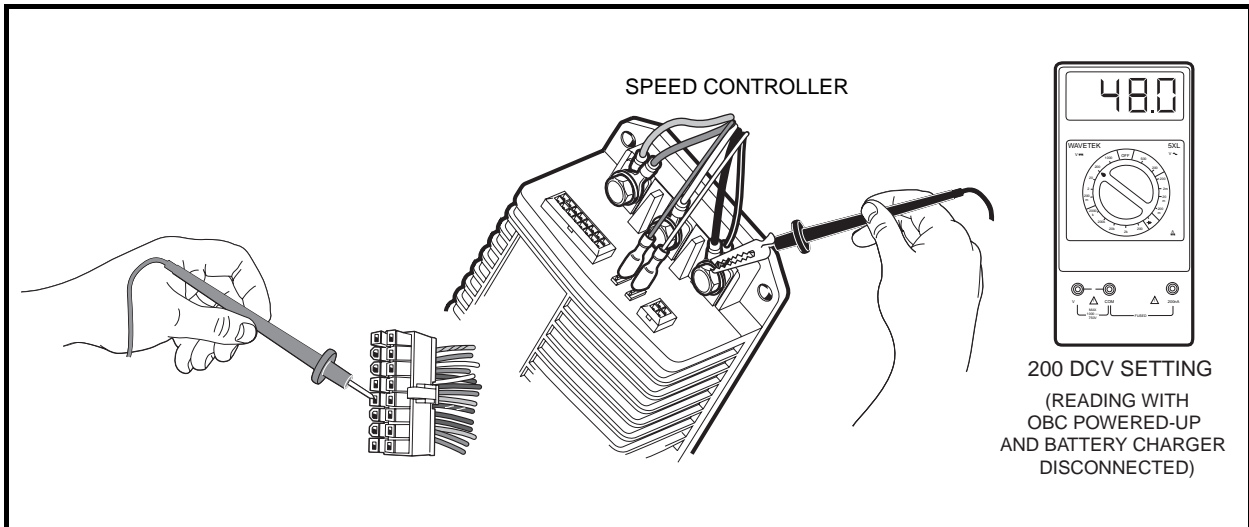

Figure 11-11 Pin 5 Test
4. Using a multimeter set for 200 volts DC, insert the red (+) probe of the multimeter into pin 5 (light blue wire) of the 16-pin connector. **See following CAUTION.** Using an alligator clip, connect the black (–) probe to the B– terminal of the speed controller (**Figure 11-11, Page 11-25**).